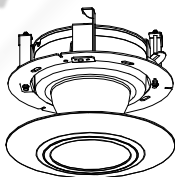

Figure 2-48 Assemble the Decorative Rim
6. Fix the decorative rim with the bubble and the decorative rim will be attached to the in-ceiling bracket automatically, as shown in Figure 2-48.